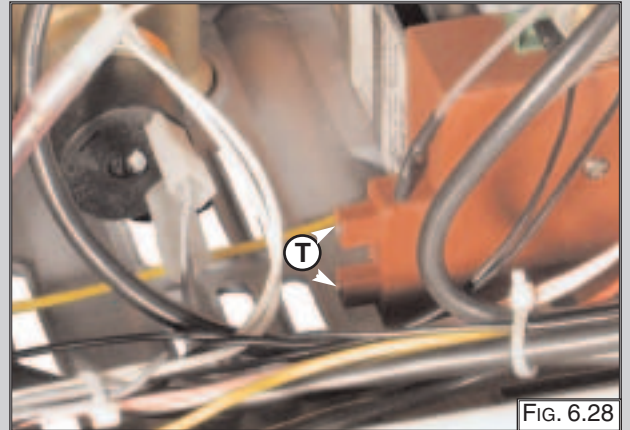

FIG. 6.28
1. Disconnect ignition leads "T" by pulling upward (FIG. 6.28);